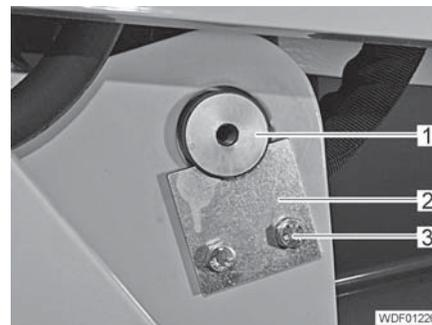

Fig. 199 Bottom end attachment
- Unscrew the 2 screws (Fig. 199,3) and remove the locking plate (Fig. 199,2).
- Drive out the pin (Fig. 199,1) and remove the shim washers if necessary.